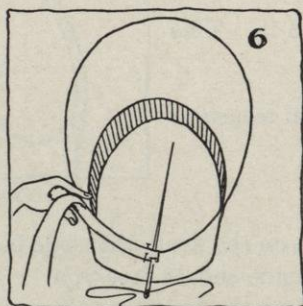

FIG. 6.
- e. Take a tiny stitch and go back right through these two selvages, continue through the brim and then through the ribbon again (see Figures 6 and 6 A). This brings your needle